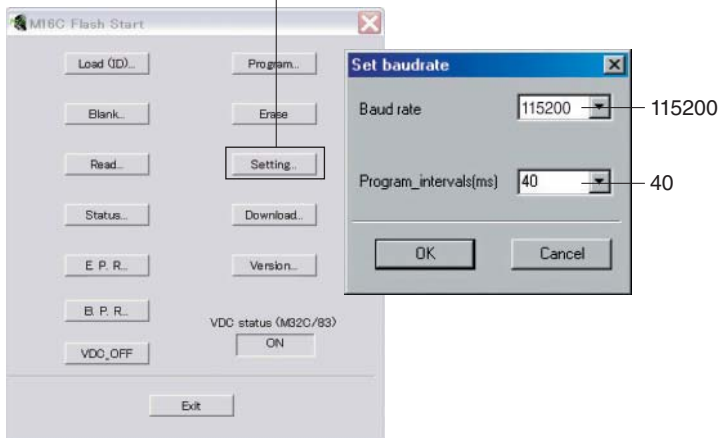

Fig. 5
5. Click [Setting], and set the baud rate. (Fig. 5)
います。(Fig. 5)